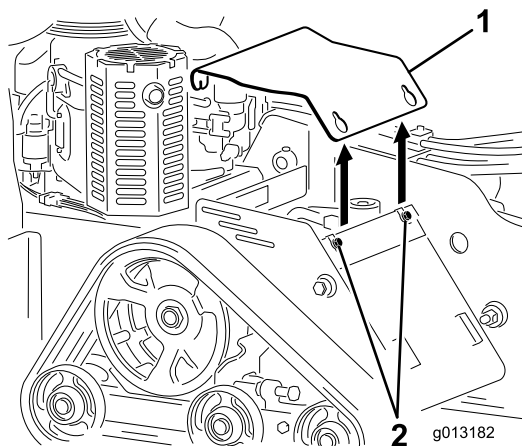

Figure 22
4. Loosen the 3 bolts securing the cover plate to the frame sequentially until the cover is loose (Figure 22).
6. To install the cover plate before operating the machine, slide the plate into place and secure it with the 3 bolts you loosened previously (Figure 22).